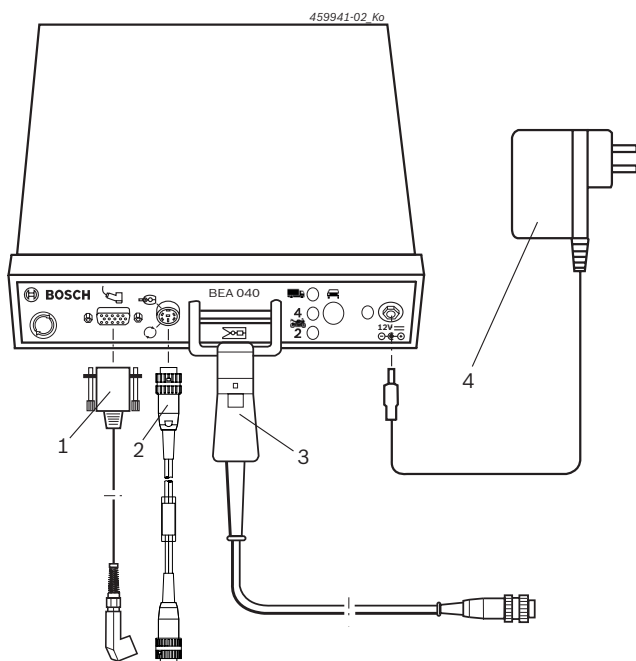

Fig. 3: Connection diagram
! Use can be made of the connecting cable for the clip-on sensor signal (1 684 460 283) for diesel vehicles. In this case, the metal connector end of the connecting cable for the clip-on sensor signal must be plugged in at the Bosch tester and the plastic connector end at the BEA 040. **It is also essential to clip the battery terminal B- of the Bosch tester to the metal housing of the combi sensor (Fig. 3, item 1).**